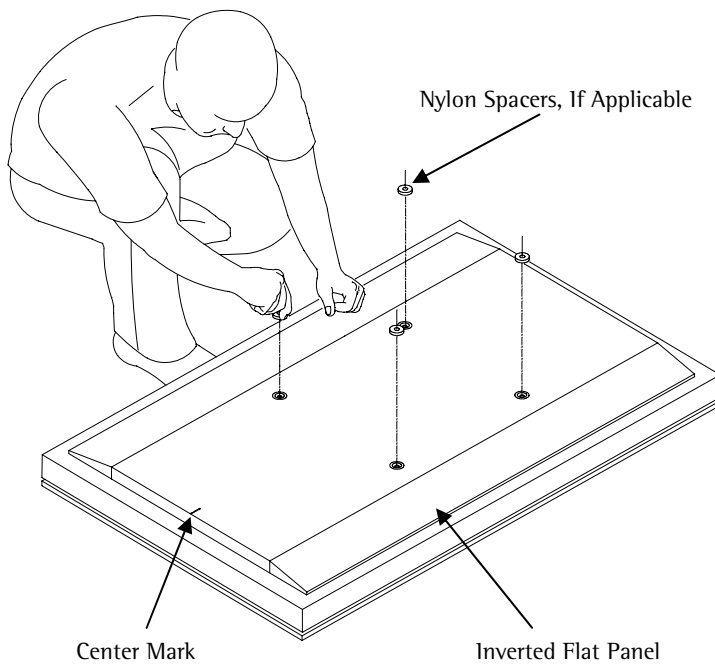

Figure 3
3. If needed, install the nylon spacers to the mounting points on the flat panel (Figure 3).